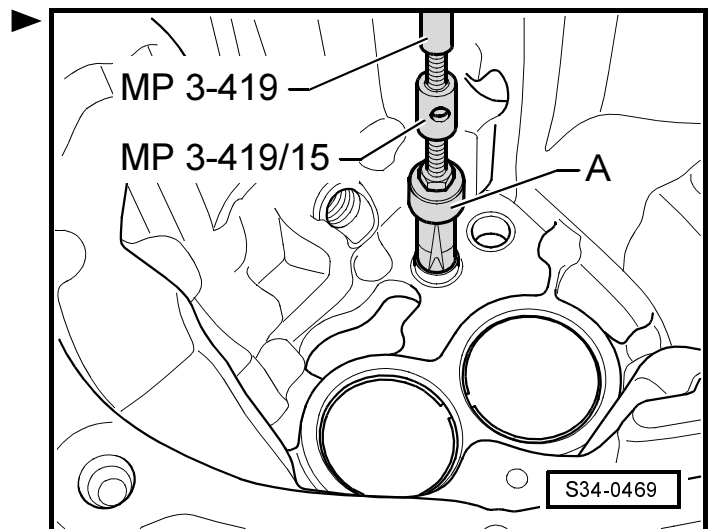

Fig. 3: Drive in the bushing -A- for the shift rod up to the stop.
- inserting ⇒ Fig. 3 in **34-10** page 3